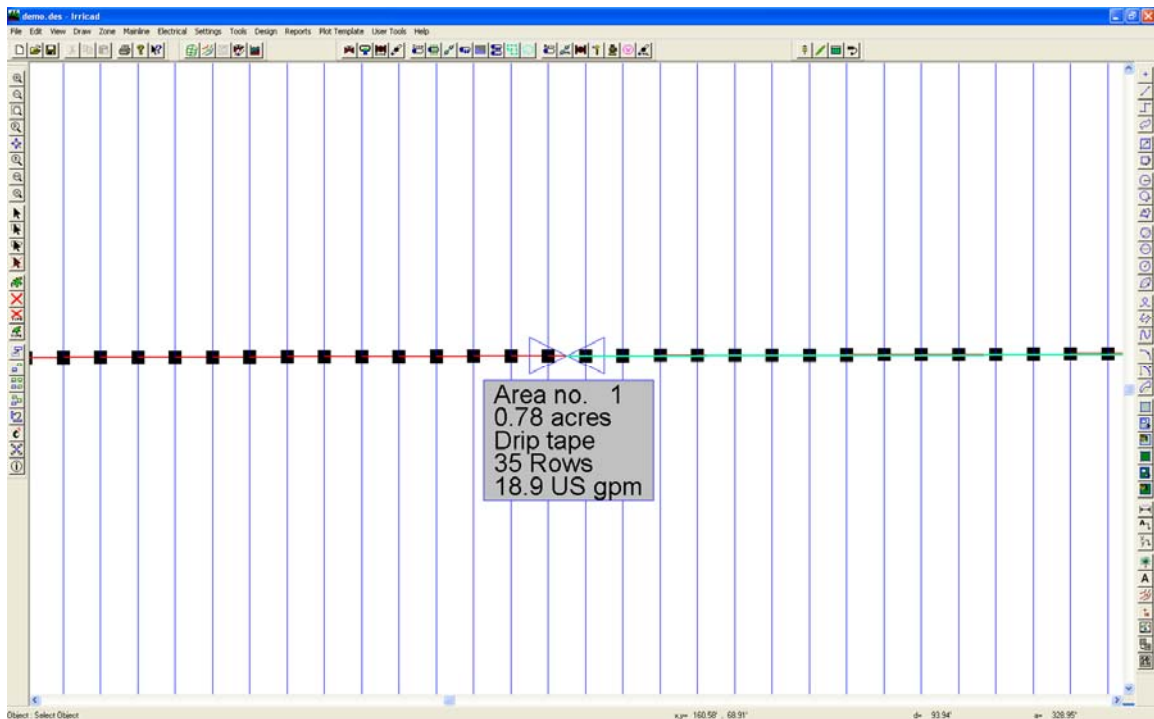

Figure AD 6
13. When this block is installed the control valve is going to be pressure-reducing and the downstream pressure will be set to **15psi (10.5m)**. To specify this go to *Design|Zone Design Configuration* and enter **15.00 (10.50)** in the "D/S Valve Pressure" column for Area no. 1. Click [OK] and run *Design|Zone|Analyse*. Open the *Reports|Zone Design Reports|Zone Design Summary* and notice that the valve pressure has been set to **15 (10.5)** and the resultant pressures throughout the zone have been recalculated from that. See Figure AD 6.